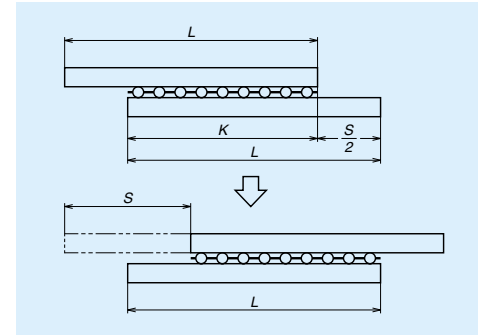

Fig. III-2-9 Relationship of rail and retainer
The retainer does not detach from the rail when condition in Formula (5) is satisfied (Refer to Fig. III-2.9).